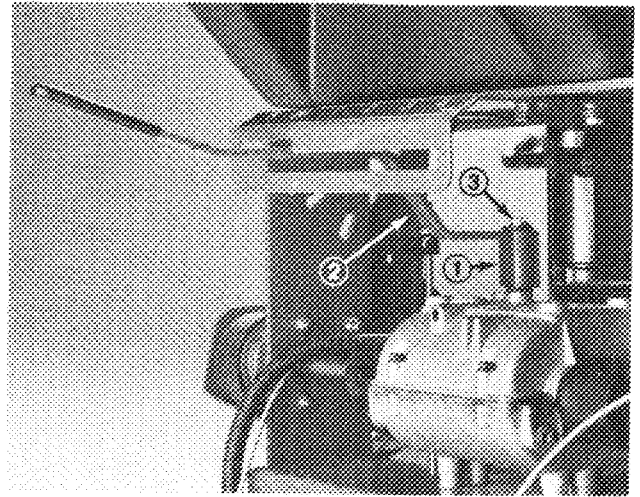

Figure 3
2. Insert shift lever thru slot in control panel and align mounting hole in lever with mounting block on transmission. Secure lever to transmission with 1/4-28 x 2" lg. capscrew, lockwasher and plain washer. Torque capscrew to 100-125 in. lb. (Fig. 3).